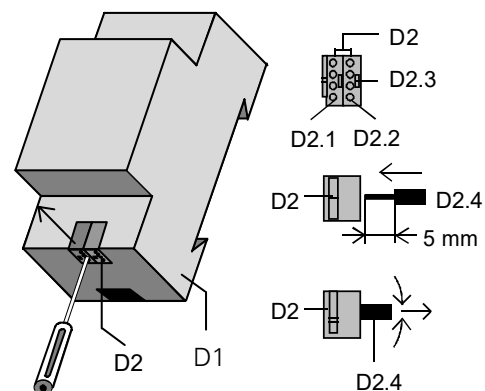

Figure 3: Connecting and disconnecting the bus wires
Slipping off bus connection blocks (Figure 3)
- The bus connection block (Figure 3, D2) is situated on the top of the device (Figure 3, D1).
- The bus connection block (Figure 3, D2) consists of two components (Figure 3, D2.1 and D2.2) with four terminal contacts each. Take care not to damage the two test sockets (Figure 3, D2.3) by accidentally connecting them to the bus cable or with the screw-driver (e.g. when attempting to unplug the bus connection block).
- Carefully put the screw-driver to the wire-inserting slit of the bus connection block's grey component and pull the bus connection block (Figure 3, D2) from the device (Figure 3, D1).
Slipping on bus connection blocks (Figure 3)
- Slip the bus connection block onto the guide slot and press the bus connection block (Figure 3, D2) down to the stop.
Connecting bus cables (Figure 3)
- The bus connection block (Figure 3, D2) can be used with single core conductors $\varnothing 0,6 \dots 0,8 \text{ mm}$.
- Remove approx. 5 mm of insulation from the conductor (Figure 3, D2.4) and plug it into the bus connection block (Figure 3, D2) (red = +, black = -).
Disconnecting bus cables (Figure 3)
- Unplug the bus connection block (Figure 3, D2) and remove the bus cable conductor (Figure 3, D2.4) while simultaneously wiggling it.